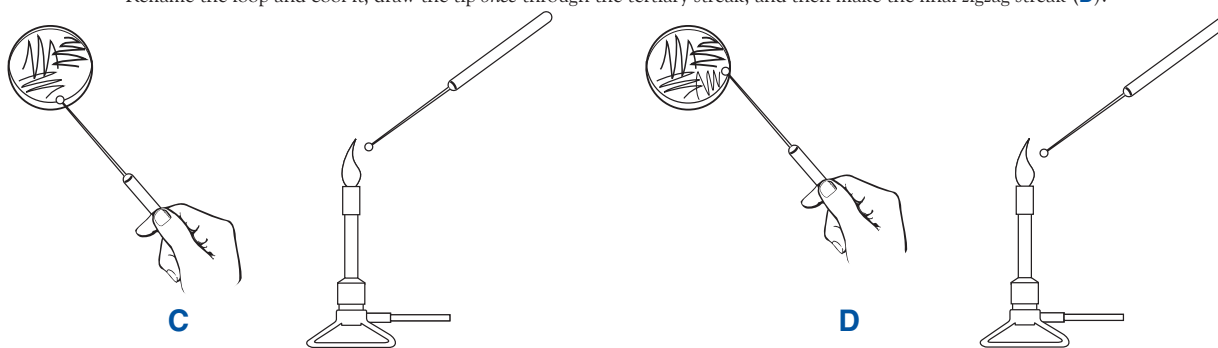

Figure 10. Isolation streaking (use metal loop only and flame it between streaks)
5. Some people streak the plate by holding the plate and lid in one hand and lifting the lid only high enough to streak as shown in Fig. 10. If you are more comfortable holding only the plate in one hand and the loop in the other, place the lid on the bench. Make sure that you place the lid flat side down. Lift or remove the top of the starter plate only long enough to perform streaking.